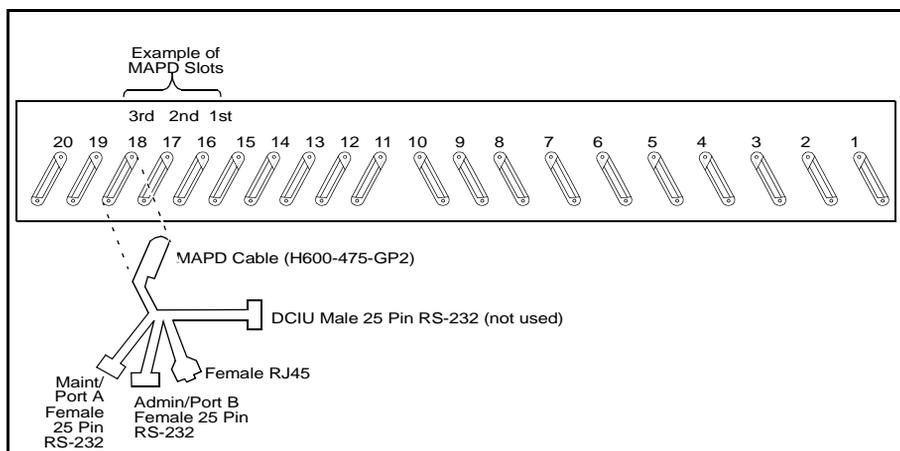

Figure 2-8. Attaching the MAPD Cable
2. Attach the male D-type amphenol connector from the MAPD Board cable (H600-475 G-2) to the MAPD Board (TN801B) port connector in the third slot of the MAPD system slots on the back of the switch. (See Figure 2-8.)